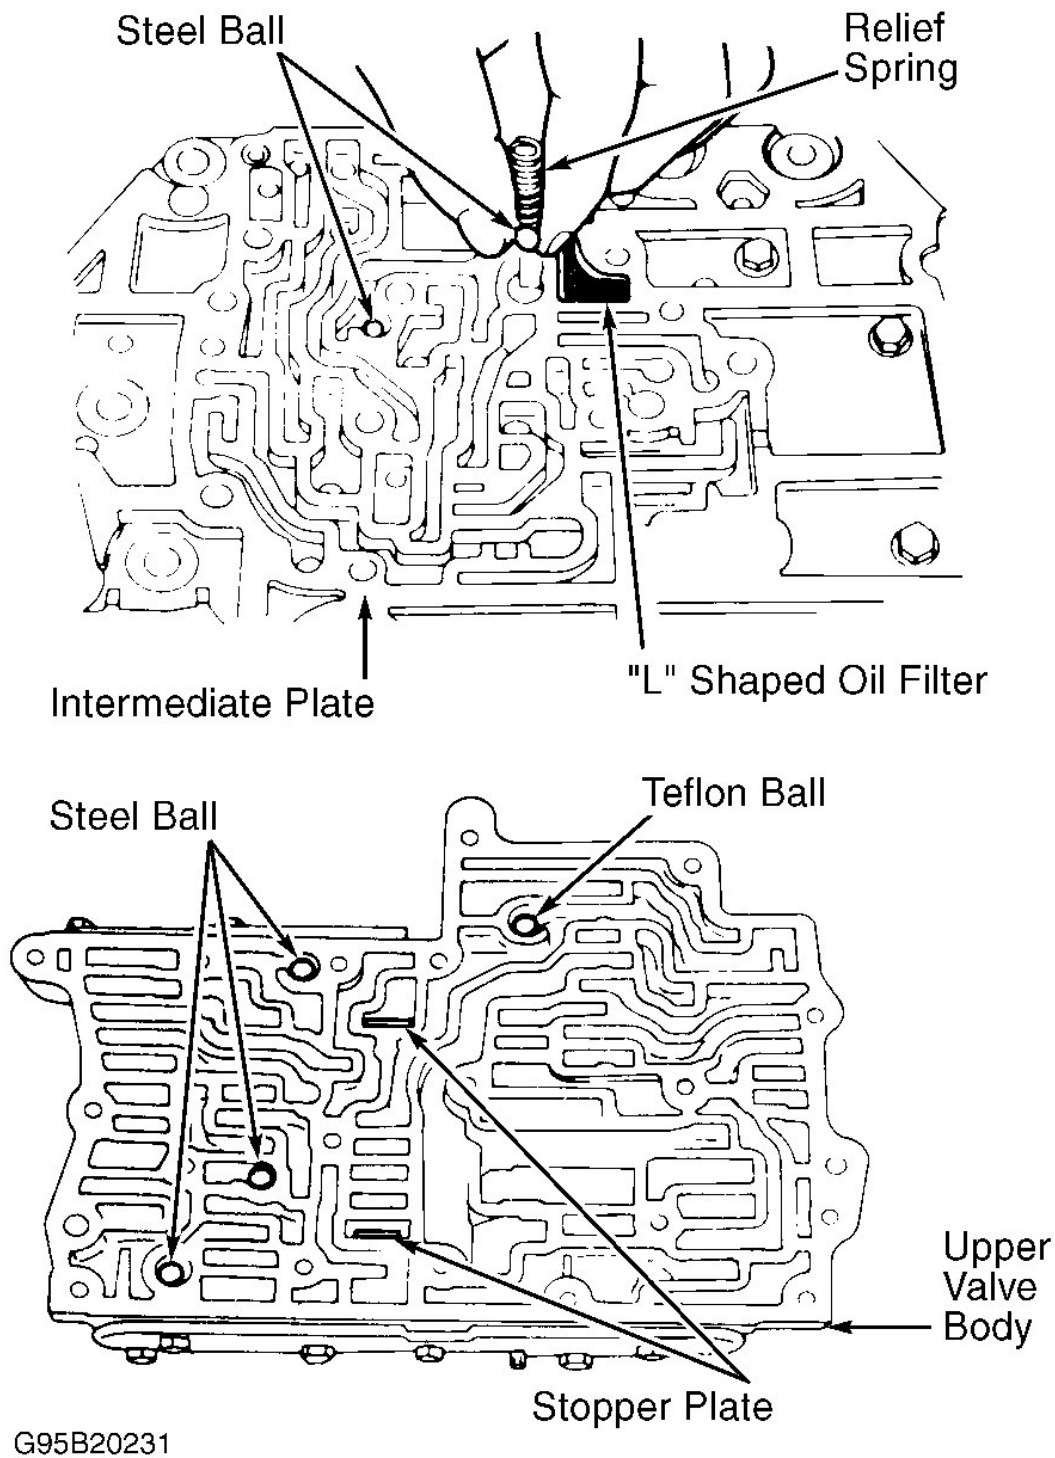

Fig. 32: Identifying Relief Spring, Steel Balls, Teflon Ball, "L" Shaped Oil Filter & Stopper Plate Locations
3. Remove relief spring, steel balls and "L" shaped oil filter from intermediate plate. See **Fig. 32** . Remove bolts, intermediate plate and upper separator plate from upper valve body. See **Fig. 33** .
4. Remove block and upper separator plate from intermediate plate. Note location of Teflon ball, steel balls and stopper plates in upper valve body. See **Fig. 32** .
1. To reassemble, reverse disassembly procedure. Ensure all steel balls, Teflon ball, relief spring and "L" shaped oil filter are installed in correct location. See **Fig. 32** .